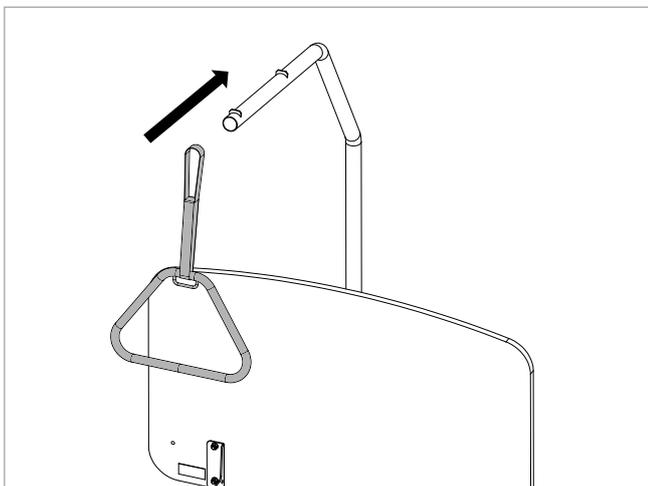

Figure 7.10
- Spread open the loop of the Fixing Belt and slide over the Lifting Pole (see Figure 7.10).